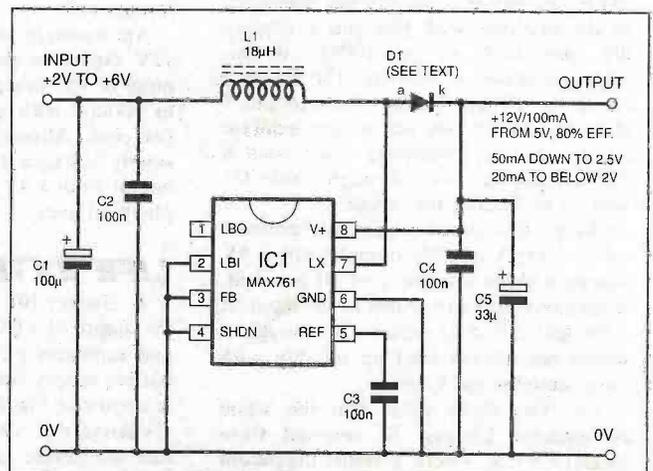
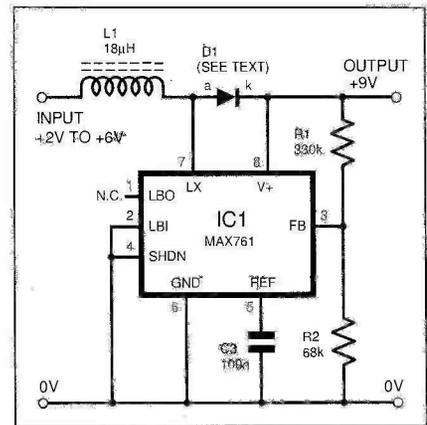

Fig.1. Pin connection details and basic bootstrapped operation for the Maxim MAX761 step-up voltage converter.
Fig.2. Bootstrapped operation with a 9V output.
The basic bootstrapped circuit is shown in Fig.1, which also shows the pin arrangement for the MAX761 d.c./d.c. converter i.c. Positive supply for pin 8 is taken from the output. The "low battery" (LB) and "shutdown" (SHDN) inputs, pin 2 and pin 4, are not used and are disabled by connection to ground (-V). The voltage sensing feedback (FB) connection at pin 3 is also grounded, causing the internal sensing circuit to take its reference from pin 8 and generate a fixed 12V output.
A bootstrapped circuit using external feedback resistors R1 and R2 to set the output to 9V is given in Fig.2. Apart from the use of these resistors the circuit is the same as that of Fig.1. (Input and output decoupling capacitors not shown.)